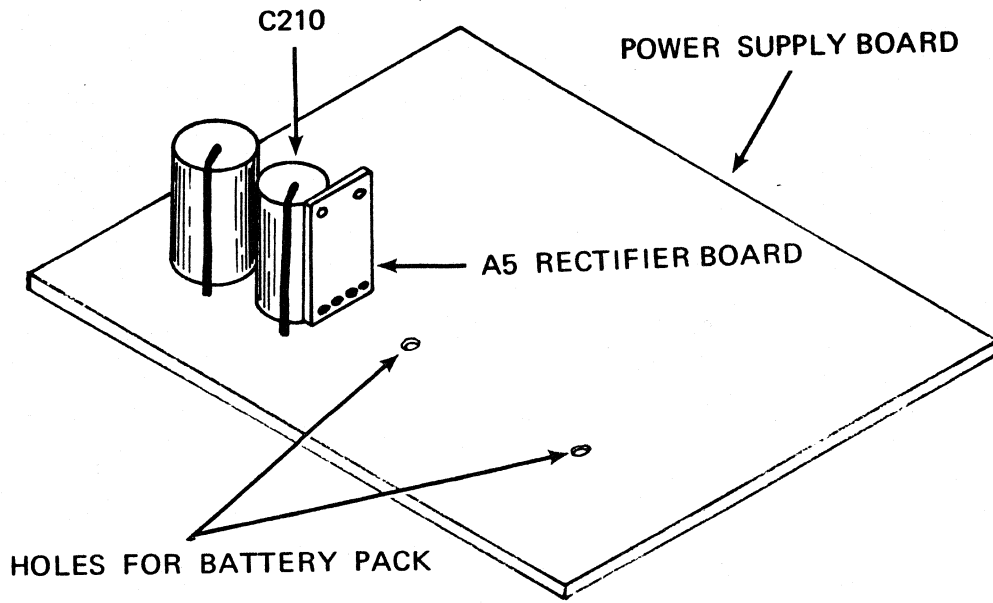
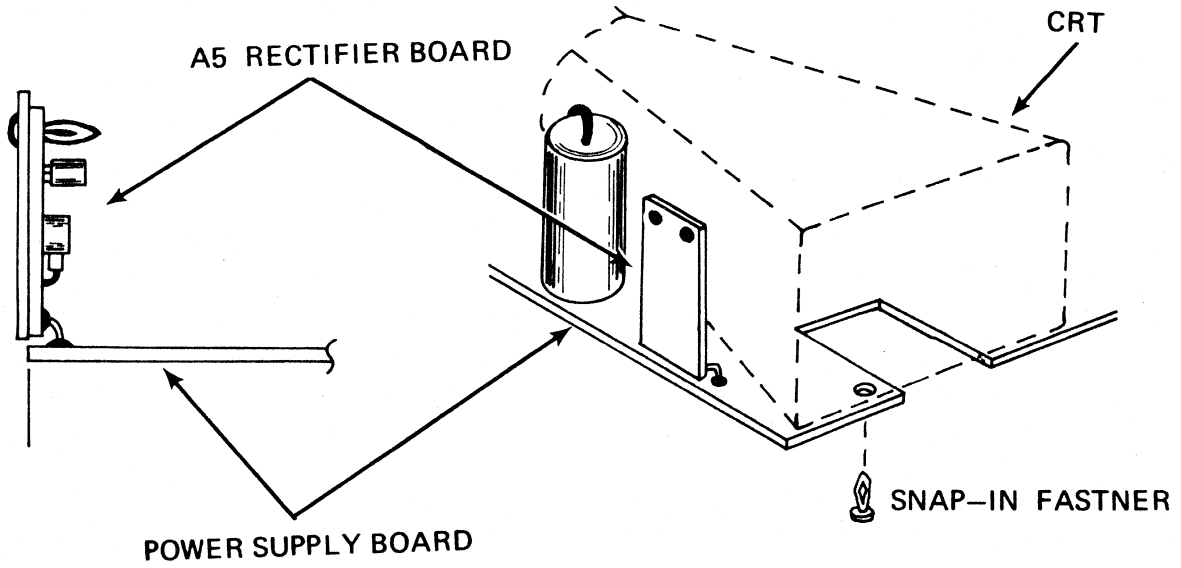

Fig. 1
Fig. 2
- () 11. Solder the A5 Rectifier circuit board into the holes vacated by CR215. For 211 instruments, the "parts side" of the A5 circuit board should face C210 (See Fig. 1). For 212 and 214 instruments, the "parts side" of the A5 circuit board should face the crt (See Fig. 2). Clip any long leads flush with the board.
- () 12. On 212/214 instruments, add the snap-in fastener to the Power Supply circuit board as shown in Fig. 2.